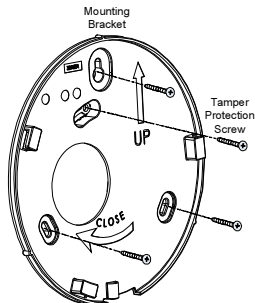

Figure 4: Attaching the mounting bracket
3. Attach the back cover to the wall using supplied screws (see Figure 4).